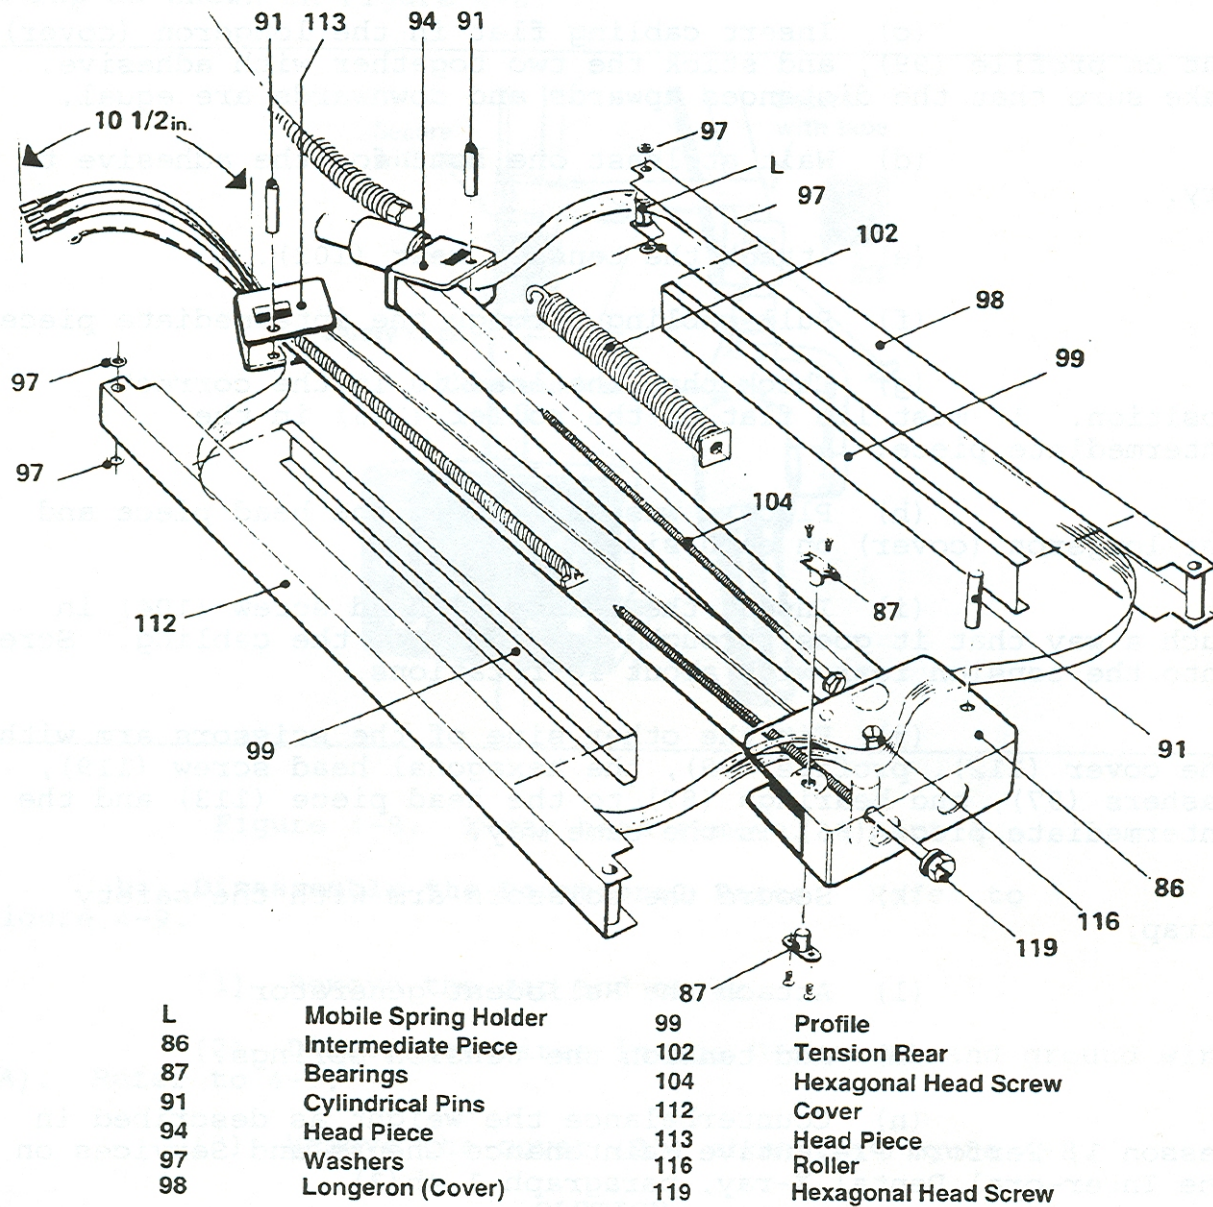

Figure 4-7. Scissors cabling arm fitting, part six.
(7) Reassemble long arm number one and number two. Refer to figure 4-7 and use the following steps.